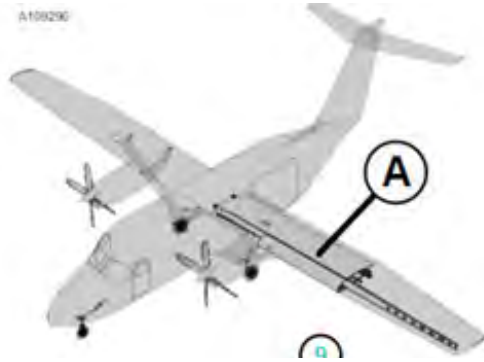

Figure 5
- (k) Visually check the positive and the negative relief fuel valve ports are free and clear of FOD. Reference Figures 5 and 6 of this section.